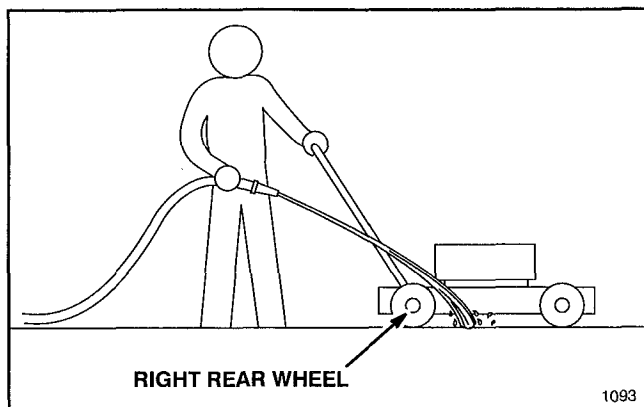

Figure 18
3. Hold the running garden hose at handle level and direct water to flow on ground just in front of right rear tire (Fig. 18). The rotating blade will draw water under the housing and wash out clippings. Let the water run for a few minutes or until you no longer see clippings being washed out from under housing.